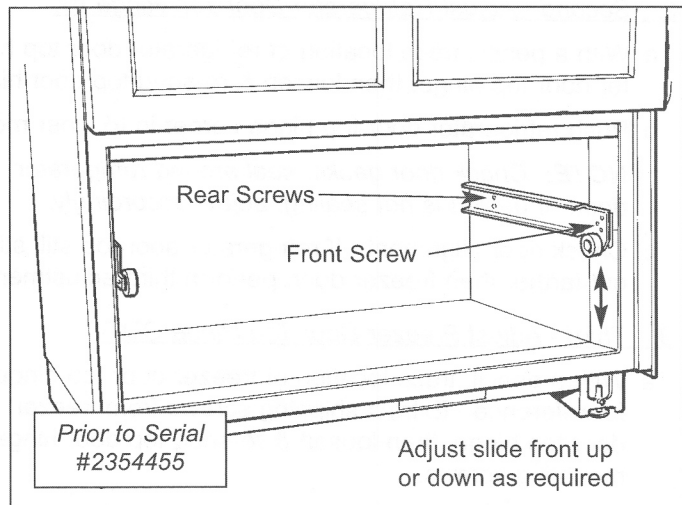

Figure 2-9. Vertical Freezer Drawer Adjustment
1. Loosen two screws towards rear of each cabinet drawer slide, and extract screw at slide front. (See Figure 2-9)
2. Relocate front screw to desired position in drawer slide insulator grommet (See Figure 2-9).